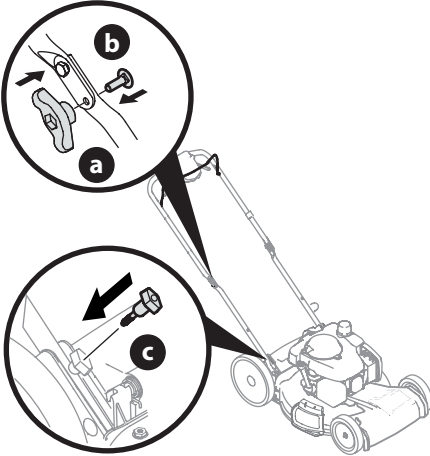

Figure 3
4. Reattach knobs or wing nuts (a) and carriage bolts (b) removed in STEP 2 into the handle (Figure 3).